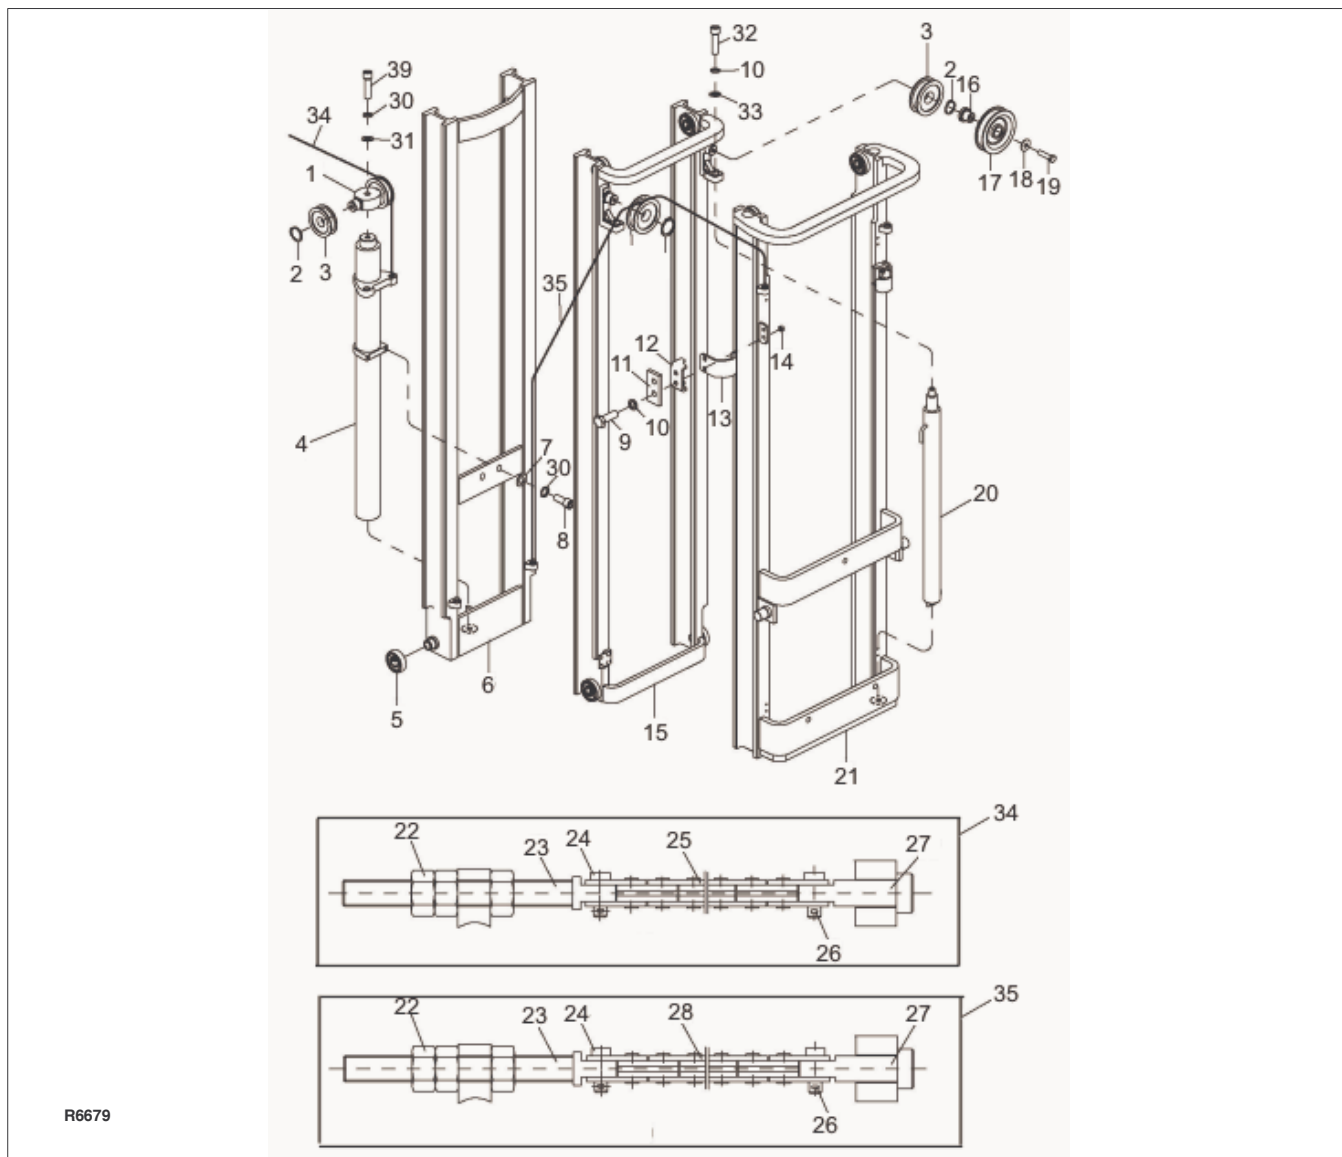

Figure 9-6 Mast (TRIMAST)
4. Remove cotter pin (26, Figure 9-6) and clevis pin (24) connecting chain (34) to chain anchor (23) at cylinder (4).
5. Remove chains from sheaves (3).
6. Remove screw (29), lock washer (30), washer (31) and ram head (1) from cylinder (4)
8. Support cylinder (4) and remove two screws (8), two lock washers (30) and two washers (7).
1. Position cylinder (4, Figure 9-6) on inner mast (6) and secure with two screws (8), two lock washers (30) and two washers (7).
3. Position ram head (1) on cylinder (4) and secure with screw (29), lock washer (30), and washer (31).
4. Position lift chains over sheave, (3) and secure with clevis pin (24) and cotter pin (26).
3. Remove screw (32, Figure 9-6), lock washer (10) and flat washer (33) securing the top of cylinder (20) to mast (15).
4. Using another lift truck or suitable jack, raise middle mast (15) far enough to remove pressure on the secondary lift cylinder (20).
6. Support cylinder (20) and remove two nuts (14), two bolts (9, Figure 9-6), two lock washers (10), block (11), support (12) and clamp (13).
1. Using another lift truck or suitable jack, raise middle mast (15, Figure 9-6) far enough to allow installation of the secondary lift cylinder (20).
2. Slowly lower mast (15) while aligning cylinder (20) with the top on mast (15).
3. Secure the top of cylinder (20) with flat washer (33), lock washer (10) and screw (32).
4. Install clamp (13), support (12), block (11), two lock washers (10), two bolts (9) and two nuts (14).